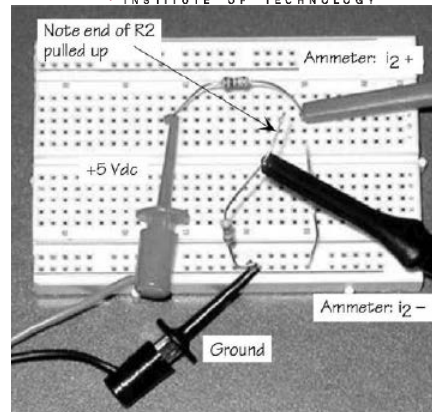

Figure 2-2: Setup to measure I_2
2.1.1 Arrange the resistors on your breadboard to align with their positions in the drawing as shown in Figure 2-2. Use the +6V DC power supply to set-up V_s .
2.1.4 Use the DMM to measure all the labeled currents (I_1 , I_2 , I_3). Remember to connect the DMM in the ammeter mode such that the ammeter is in series. Figure 2-2 shows how the meter leads are placed to measure I_2 . Compute the percent error of your measurements compared to the nominal values. Record your data on a table similar to Table 2-1.